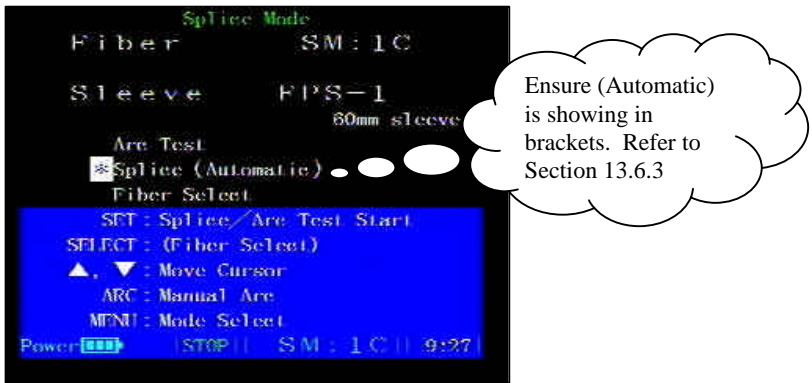

Figure 19. Starting the Automatic Splice
1. With the hood closed, and the splicer in the “SPlice MODE” menu screen, move the cursor to “SPlice” as shown in Figure 19.